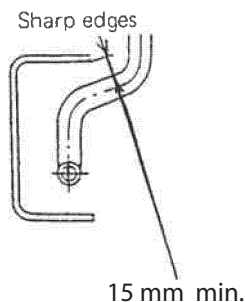

Fig. 5
- Position the brake lines so that they are not closer than 15 mm to sharp edges of the frame or other parts. (Fig. 5)